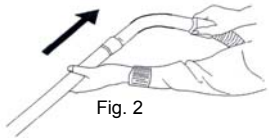

Fig. 2
- Push the extension tube into the curved wand / hose extension, as shown in the illustration below. Make sure that the extension tube is secure. (Fig. 2) Attach the second extension tube to the first.